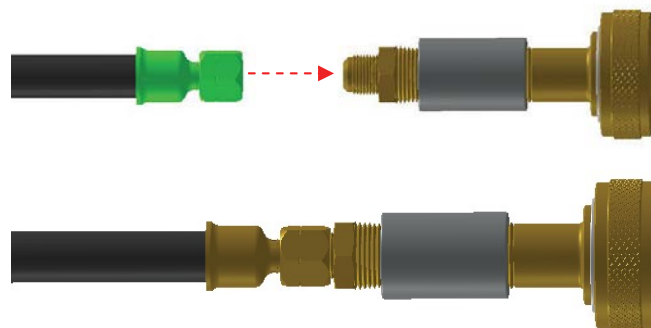

Figure 4
5. Connect service evacuation hose to the liquid evacuation adapter. **Torque: Fully Seated Not Stripped, Not Leaking. Figure 4**